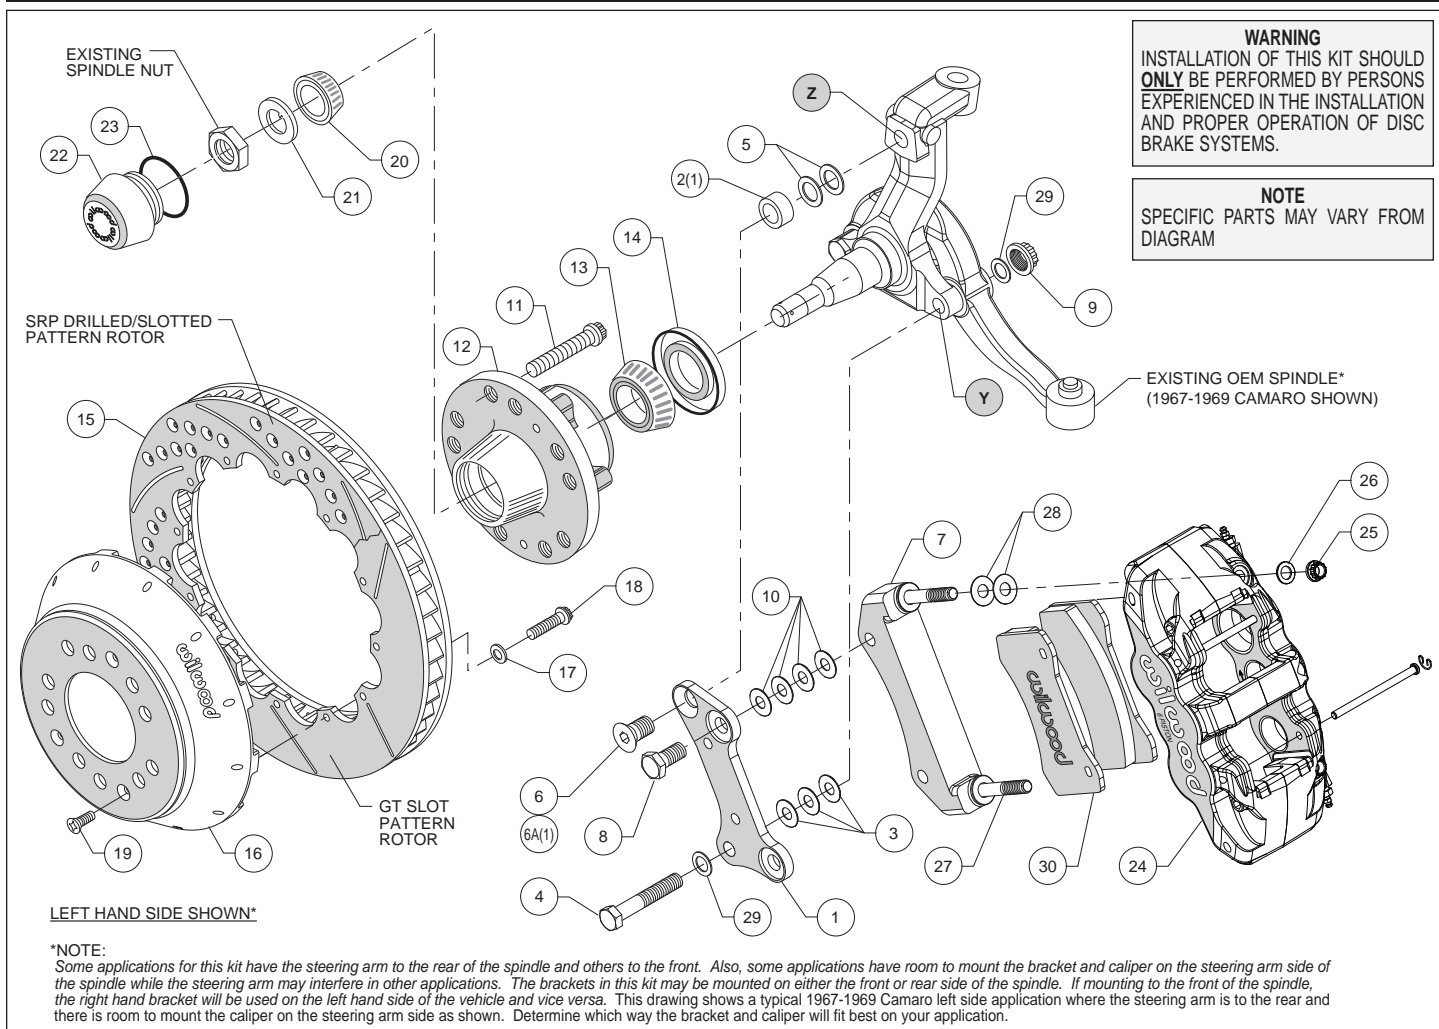
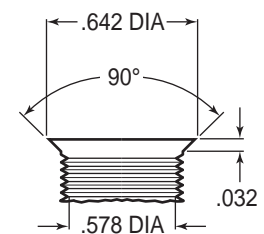
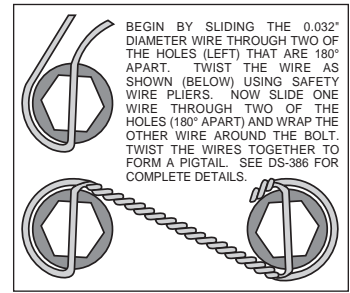

Figure 1. Typical Installation Configuration
Figure 3. Drill and Tap Detail
Figure 4. Safety Wire Diagram
Assembly Instructions (numbers in parenthesis refer to the parts list, and Figure 1 on the preceding pages):
•**NOTE:** Some applications for this kit have the steering arm to the rear of the spindle and others to the front. Also, some applications have room to mount the bracket and caliper on the steering arm side of the spindle while the steering arm may interfere in other applications. The brackets in this kit may be mounted on either the front or rear side of the spindle. If mounting to the front of the spindle, the right hand bracket will be used on the left hand side of the vehicle and vice versa. Figure 1 shows a typical 1967-1969 Camaro left side application where the steering arm is to the rear and there is room to mount the caliper on the steering arm side as shown. Determine which way the bracket and caliper will fit best on your application.
•**NOTE:** Some spindles in this year range may require the following modifications (reference Figure 1 and Figure 3): Top anchor pin hole (Z) must be drilled and tapped to the dimensions as outlined in Figure 3. The lower bolt hole (Y) in the spindle used to mount the new caliper bracket, and the mating steering arm hole, must be enlarged to .50" by drilling. It is recommended these modifications be performed by a qualified machinist.
•Install wheel studs (11) into the hub (12), Figure 1 and Photo 1. Torque to 77 ft-lb. **NOTE:** There are two five lug patterns in the hub (5 x 4.50 and 5 x 4.75). Ensure the correct hub stud pattern is being used to fit the wheel application.
•Pack the large inner bearing cone (13) with high temperature disc brake bearing grease (available from your local auto parts store) and install into the backside of the hub (12), Photo 2.
•Install the grease seal (14) by pressing into the backside of the hub (12), flush with the end of the hub, Photo 2.
•Orient the rotor (15) and the hat (16) as shown in Figure 1 and Photo 3. Attach rotor to hat using bolts (18) and washers (17). Using an alternating sequence, apply red *Loctite*® 271 to the threads, and torque to 155 in-lbs. For an added measure of security, the bolts may be safety wired using standard 0.032 inch diameter stainless steel safety wire as shown in Figure 4. Please refer to Wilwood's data sheet DS-386 (available at www.wilwood.com/Pdf/DataSheets/ds386.pdf) for complete safety wire installation instructions.
•**Disc Brake Spindle Application Only:** Follow the instructions below, but instead use bolt (6A), spacer (2), and two .050" thick washers (5) in the upper bolt hole location, Figure 1.
•Orient the flat bracket (1) as shown in Figure 1 and Photo 4, and install using bottom bolt (4), washers (29), and nut (9), Figure 1. Initially place three .032" thick shims (3) between the bracket and spindle. Install the upper bolt (6 or 6A), Photo 5. Temporarily tighten bolts. **NOTE:** *The bracket must fit squarely against the mounting surfaces on the spindle.* Inspect for interference from casting irregularities, machining ridges, burrs, etc. Temporarily install the hub and hat/rotor assembly. Check that the bracket is aligned parallel to the rotor, Photo 6. If not, adjust by adding or subtracting shims (3) on the lower bolt between the bracket and spindle, Figure 1. Once the bracket alignment is correct, remove the upper bolt (6 or 6A), apply red *Loctite*® 271 to the bolt threads, and torque to 120 ft-lb. Torque the lower lock nut to 65 ft-lb.
•The radial mount caliper bracket (7) should initially be installed with clean dry threads on the mounting bolts. Orient bracket as shown in Figure 1, and install using bolts (8). Initially place four shims (10) on each bolt between the two brackets. Temporarily tighten the mounting bolts. Later, after the caliper alignment has been checked, the mount bolts will be secured using red *Loctite*® 271.
•Pack the small outer bearing cone (20) with high temperature disc brake bearing grease and install into hub (12). Final install the hub assembly onto the spindle. Secure using spindle washer (21), and OEM spindle nut, Photo 7. Adjust bearings per OEM specifications. Install new cotter pin (not included).
•Screw dust cap (22) into hub (12), Photo 8. Friction created by the o-ring (23) on the dust cap keeps it from unscrewing. **NOTE:** *The O.D. of the existing OEM spindle washer may be larger than the I.D. of the dust cap not allowing it to seat against the hub face. Therefore, use the spindle washer (21) supplied with the kit instead of the OEM washer.*
•Final install the hat/rotor (15 and 16) onto the hub (12) taking care to align the small countersunk holes in the hat with the small threaded holes in the hub. **NOTE:** *The hat must fit flush against the hub face or excessive rotor run out may result.* Install three flat head screws (19) through the small holes in the hat (16), Photo 9, and torque to 85 in-lb.
•**NOTE:** *This kit contains distinct right and left hand calipers that must be mounted in a specific direction, as described below.* Lubricate the caliper mounting studs (27) with lightweight oil. Initially place two .030" thick shims (28) on each stud between the caliper and the bracket, as shown in Figure 1 and Photo 10. Mount the caliper (24) onto the bracket (8) using lock nuts (25) and washers (26), Figure 1. Ensure that the caliper is mounted so the largest pistons are at the rotor exit end of the caliper, in relation to the direction of rotor rotation. Temporarily tighten the lock nuts and view the rotor through the top opening of the caliper. The rotor should be centered in the caliper, Photo 11. If not, adjust by adding or subtracting shims (10) between the flat bracket (1) and the radial mount bracket (8). Always use the same amount of shims on each